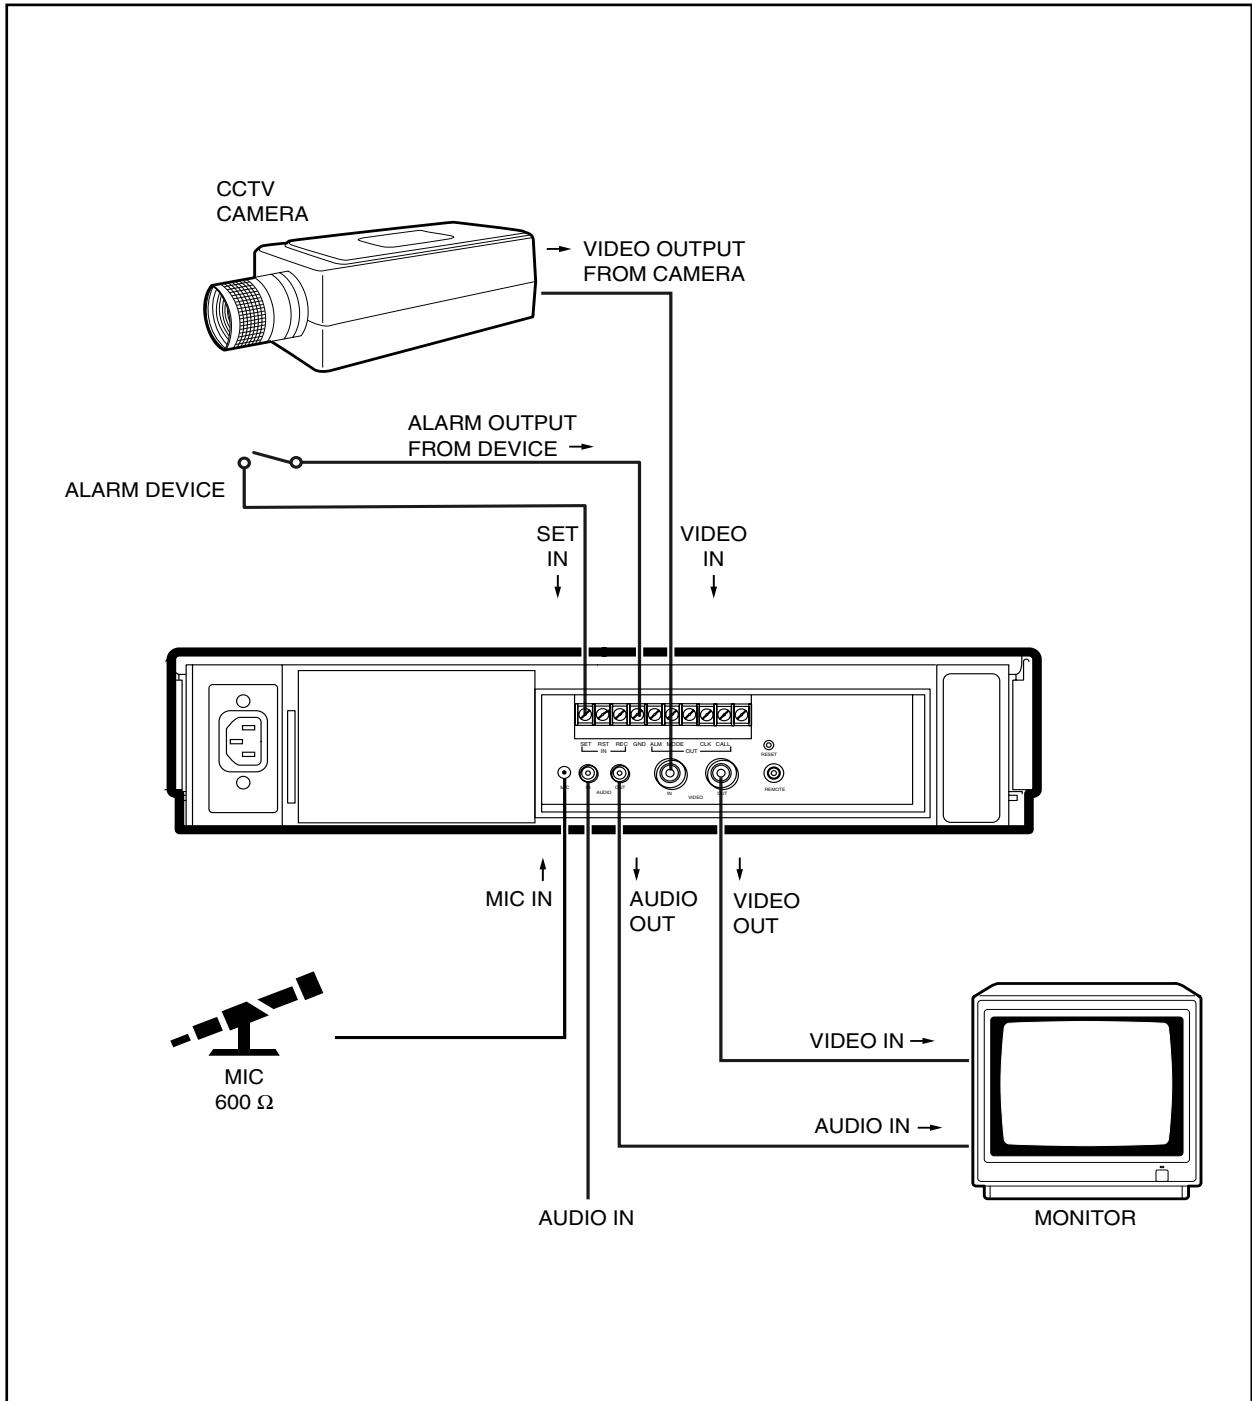

Figure 1. Typical System Setup
4. If you are not using a switcher, refer to Figure 1.